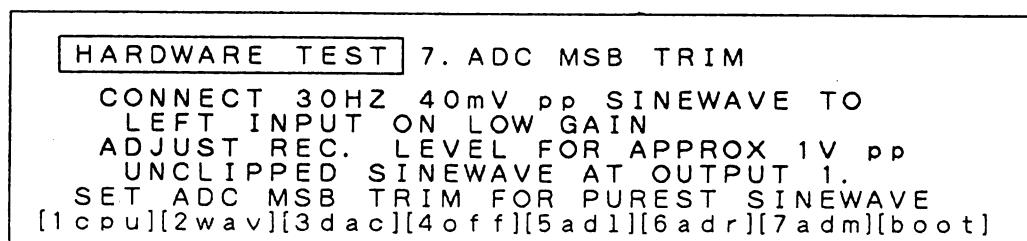

Fig. 4-17
- 1) During the HARDWARE TEST mode, press the "F7/G" button. The following menu will appear on the LC-display(refer to Fig. 4-17).